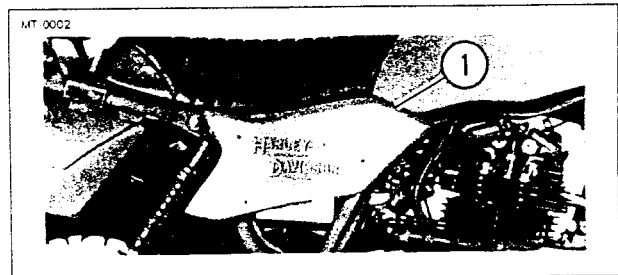

Figure 5-7. Right Side Panel
6. See Figure 5-7. Install right side panel (1).